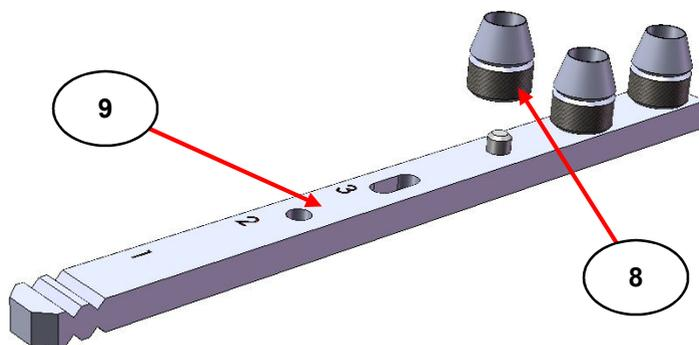

Fig 6. Fitting of Sample Cup to the Mount Holder Assembly
A sample cup (8) is 5mm diameter and 3mm deep for powder sample containment. It simply push fits over a location pin on the mount holder assembly (9) for its particular **sampling position**. (See Fig 6.)